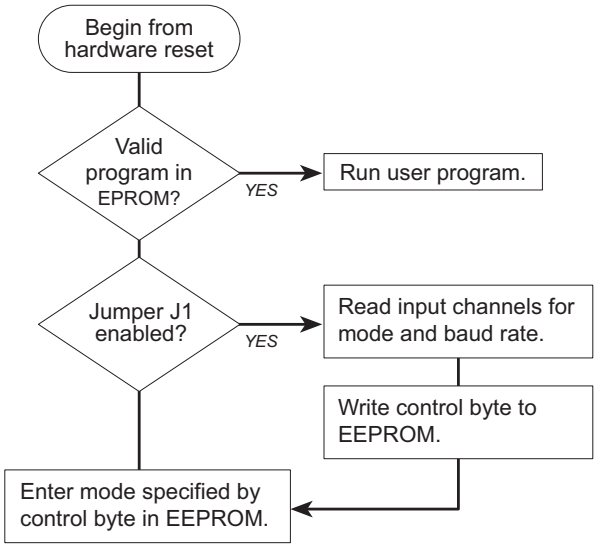

Figure 3-1. BL1200 Activity at Startup
The flowchart in Figure 3-1 describes the various actions the BL1200 may take at startup.
1. Make sure the power supply is properly connected at sockets 1 and 2 on header H2 (see Figure 3-1).